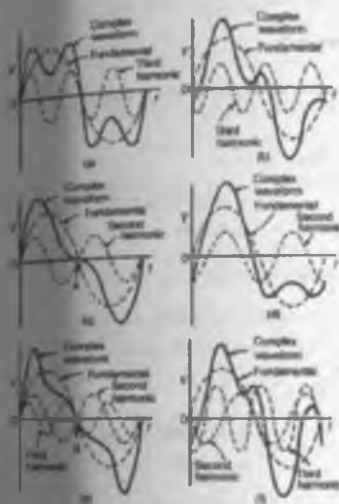

Figure 10.22
- (ii) A complex waveform comprising the sum of the fundamental and a third harmonic of about half the magnitude of the fundamental is shown in Fig. 10.22(a), both waveforms being initially in phase with each other. If further odd harmonic waveforms of the appropriate amplitudes are added, a good approximation to a square wave results. In Fig. 10.22(b), the third harmonic is shown having an initial phase displacement from the fundamental. The positive
and negative half cycles of each of the complex waveforms shown in Figures 10.22(a) and (b) are identical in shape, and this is a feature of waveforms containing the fundamental and only odd harmonics.
(iii) A complex waveform comprising the sum of the fundamental and a second harmonic of about half the amplitude of the fundamental is shown in Fig. 10.22(c), each waveform being initially in phase with each other. If further even harmonics of appropriate amplitudes are added a good approximation to a triangular wave results. In Fig. 10.22(c), the negative cycle, if reversed, appears as a mirror image of the positive cycle about point A. In Fig. 10.22(d) the second harmonic is shown with an initial phase displacement from the fundamental and the positive and negative half cycles are dissimilar.
(iv) A complex waveform comprising the sum of the fundamental, a second harmonic and a third harmonic is shown in Fig. 10.22(e), each waveform being initially 'in-phase'. The negative half cycle, if reversed, appears as
a mirror image of the positive cycle about point B. In Fig. 10.22(f), a complex waveform comprising the sum of the fundamental, a second harmonic and a third harmonic are shown with initial phase displacement. The positive and negative half cycles are seen to be dissimilar.
The features mentioned relative to Figures 10.22 (a) to (f) make it possible to recognize the harmonics present in a complex waveform displayed on a CRO.